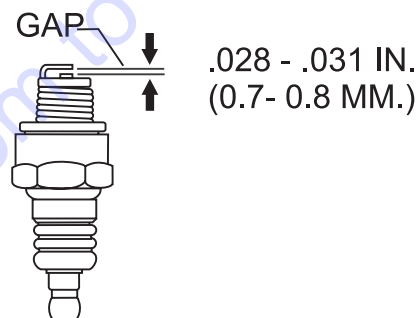

**Figure 36. Cleaning The Spark Arrester**
2. Remove the 5 mm screw (4) from the muffler protector, then remove the muffler protector.
3. Carefully remove carbon deposits from the spark arrester screen (Figure 36) with a wire brush